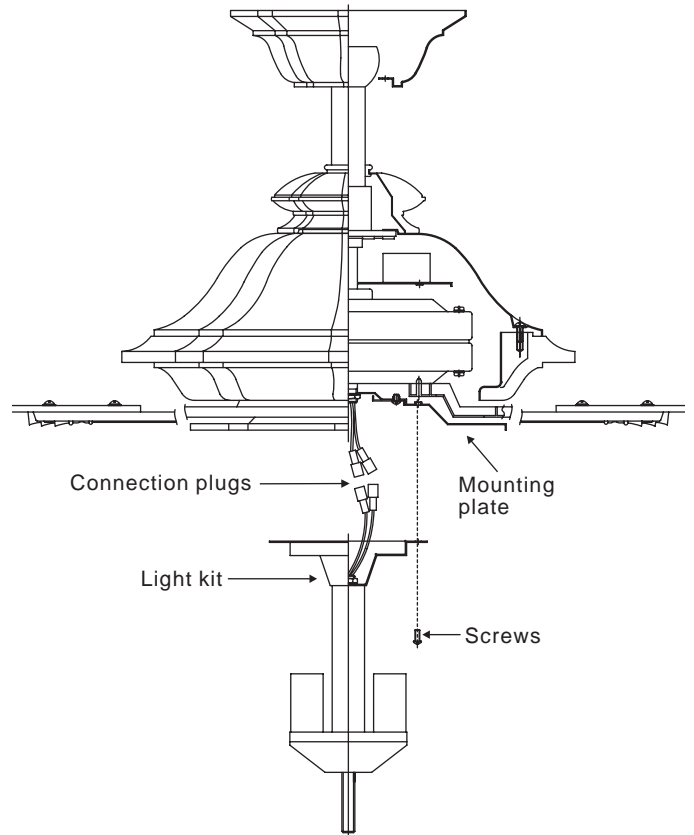

Figure 17
1. Raise and hold the light kit close to the mounting plate and proceed to do the wire connections. Connect the white wire connectors from the light kit and fan, follow the same procedure with the black wire connectors. (Fig. 17)
2. Carefully push all wires back into the mounting plate, then install the light kit onto the mounting plate with 3 screws provided. Be sure to tighten all screws. (Fig. 17)